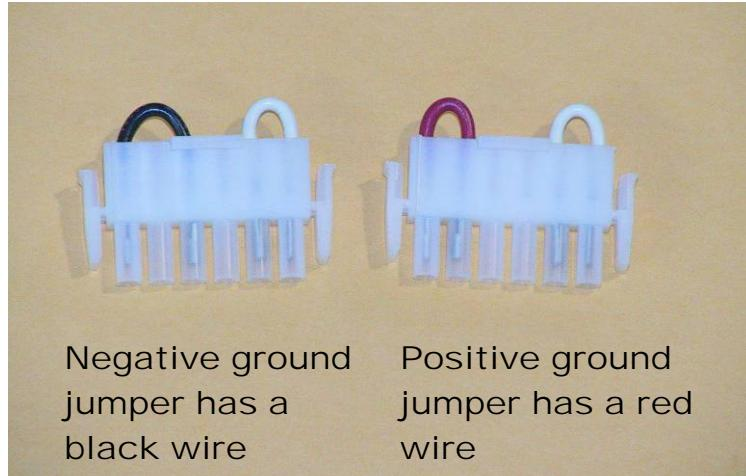

Figure 7 Grounding Jumpers
7. Remove the 1 A fuse and select the negative or positive grounding jumper included with the inverter (see Figure 7).